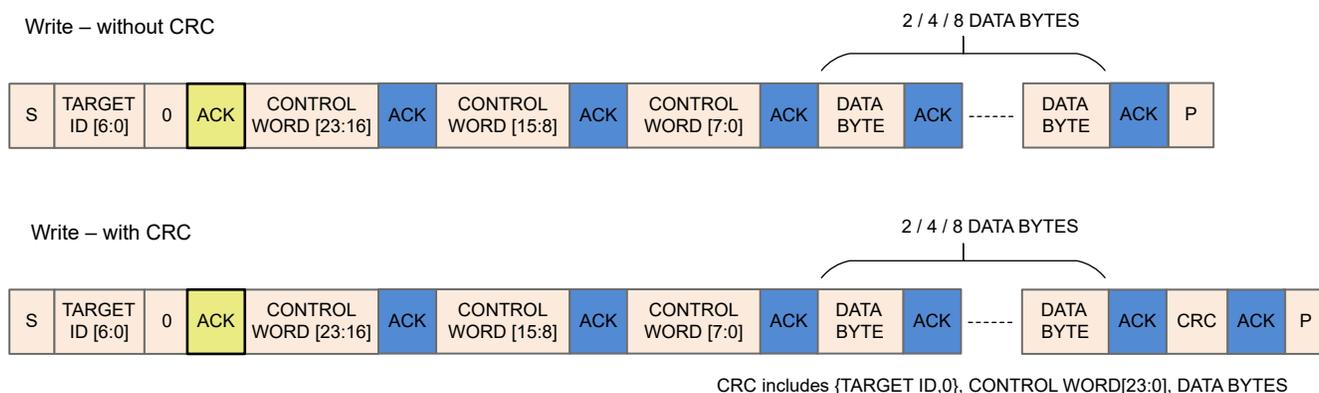
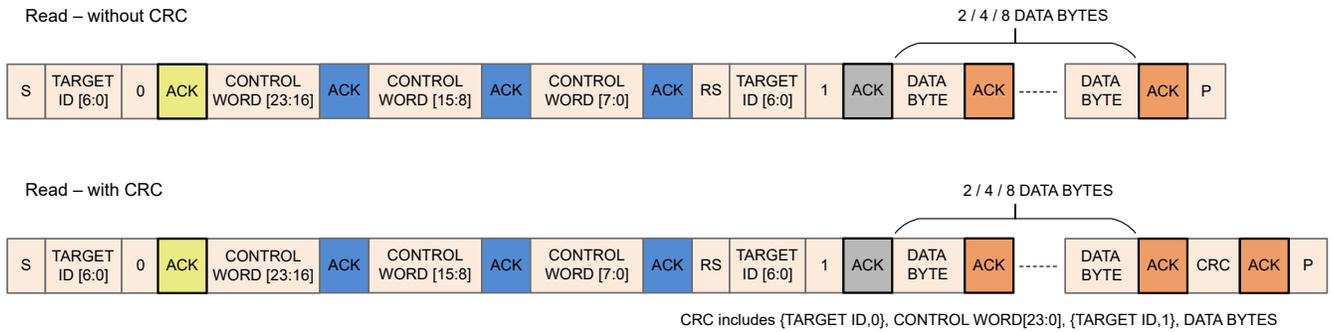

图 7-54. I²C Write Transaction Sequence
图 7-55. I²C Read Transaction Sequence
MCT8315A write transaction over I²C involves the following sequence (see 图 7-54).
MCT8315A read transaction over I²C involves the following sequence (see 图 7-55).
- When target ID is a match, I²C peripheral in MCT8315A raises a start interrupt request. Until this start interrupt request is processed, clock is stretched. Upon processing this request, clock is released and an ACK (marked in yellow or grey in 图 7-54 and 图 7-55) is sent to the controller for continuing with the transaction.
- Receive interrupt pending:** When a receive interrupt is waiting to be processed and the receive register is full which occurs when two successive bytes (data or control) have been received by MCT8315A (separated by one ACK shown as blue boxes in 图 7-54 and 图 7-55) without the receive interrupt generated by the first byte being processed. Upon receive of second byte, clock is stretched until receive interrupt generated by the first byte is processed.